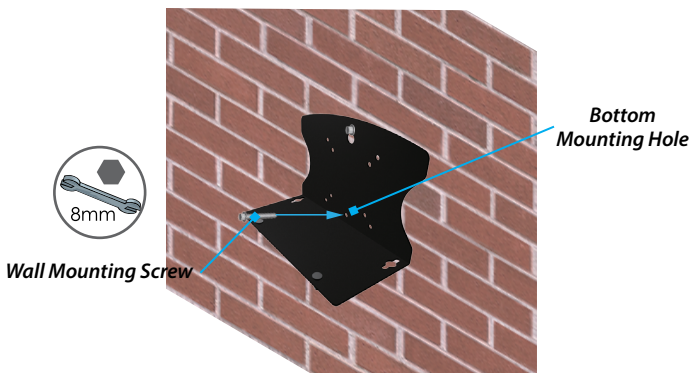

Figure 8
11. Insert the remaining **Wall Mounting Screw** (x 1) through the **Bottom Mounting Hole**. Use the **11/32 in (8 mm) Wrench** to **Tighten** all the **Wall Mounting Screws** (x 2) to secure the **Wall Mount Bracket**. Figure 8.